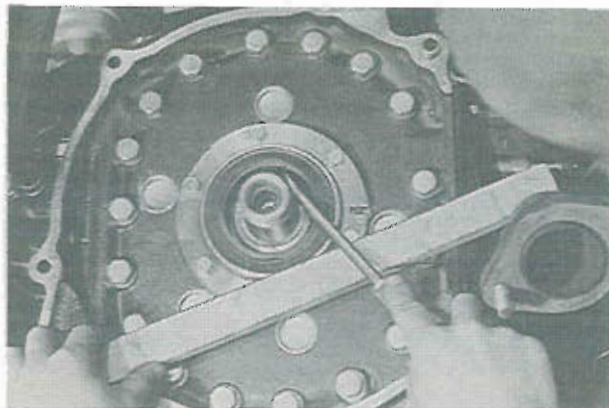

Fig. 1-15 Removing of oil seal
2. Remove the oil seal with a suitable tool, as shown in Fig. 1-15.